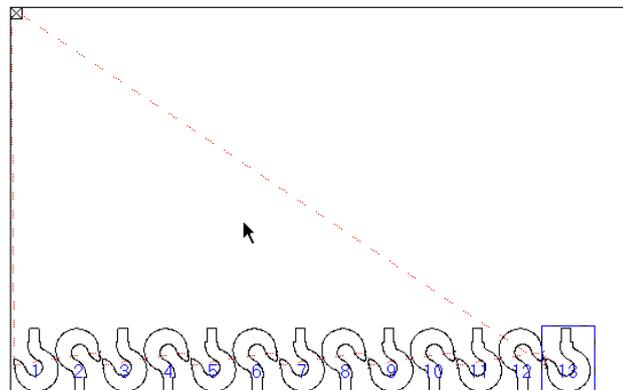

Figure 6-11-5
- X Flipped: program will make nesting for a row of demanded parts in the mode of 180 degree eversion every two parts and along positive direction of X axis, until coming up against other parts or edge of plate. During nesting, the minimum spacing of part will be remained. Figure 6-11-5 is for reference: